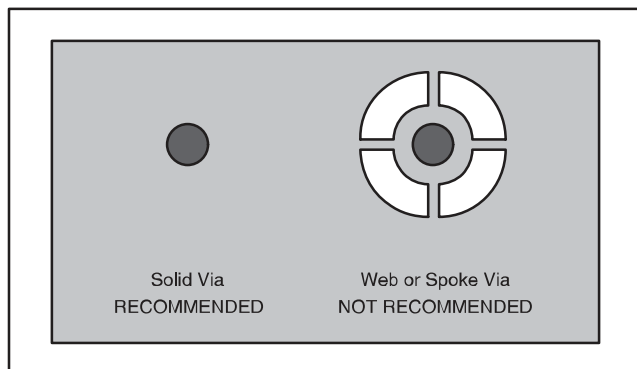

Figure 8. Via Connection
5. When connecting these holes to the ground plane, do not use the typical web or spoke via connection methodology, see Figure 8. Web connections have a high thermal resistance connection that is useful for slowing the heat transfer during soldering operations. This makes the soldering of vias that have plane connections easier. However, in this application, low thermal resistance is desired for the most efficient heat transfer. Therefore, the holes under the